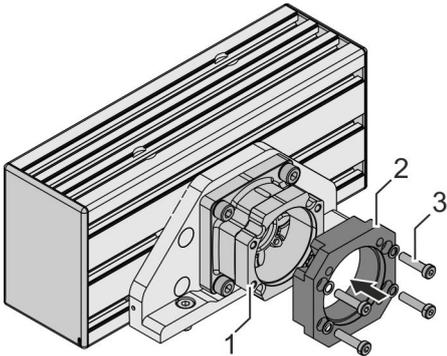

Fig. 34: Assembling the motor plate
**8.** Place the motor plate (Fig. 34/2) on the coupling housing (Fig. 34/1).
**9.** Tighten 4 screws (Fig. 34/3) alternating diagonally: